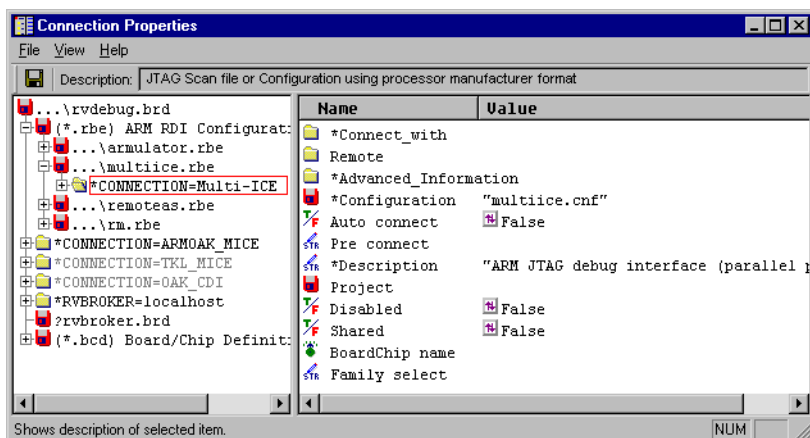

Figure 3-38 Multi-ICE connection properties
3. Right-click on the Multi-ICE connection and select **Connection Properties...** from the context menu. This displays the Connection Properties window with the connection expanded (Figure 3-38).